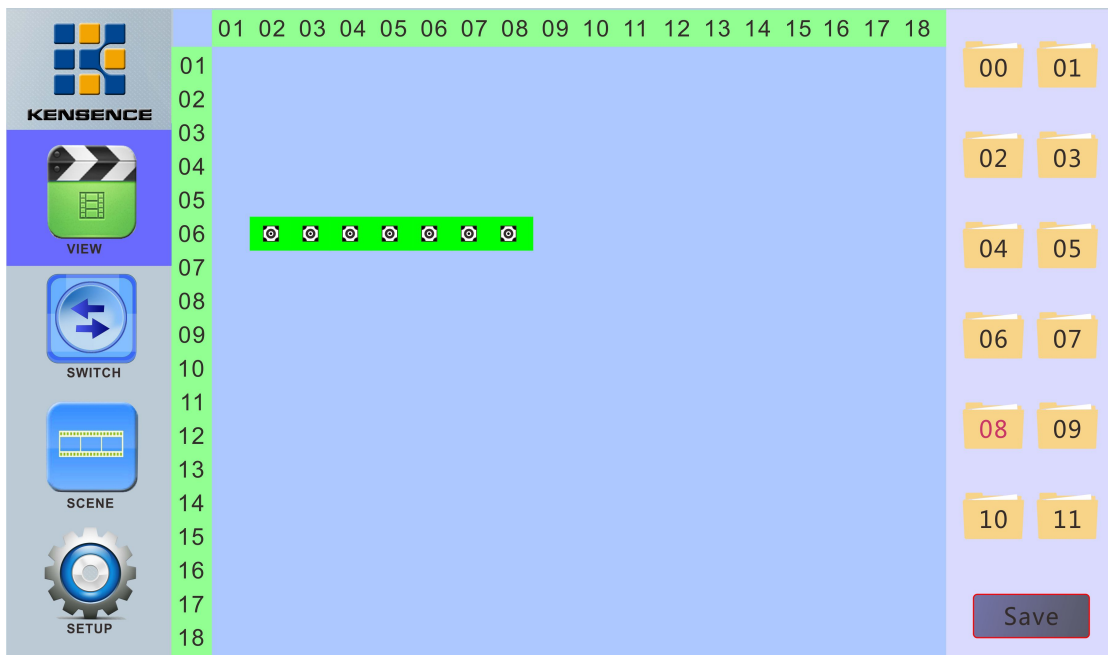

Figure 6.2.1 VIEW interface
1. **VIEW** interface: as shown in Figure 6.2.1, this interface can show current input and output status of the matrix, the figure 6.2.1 says the current sixth input signal switching to output signal 02, 03, 04, 06, 07, 08, while the current input and output can be saved in the right side of the interface, it has 13 scenarios from 01 to 13 for users, select any number from 01 to 13 , click "SAVE" to save the scene (00 is the current real-time state of matrix , not optional).